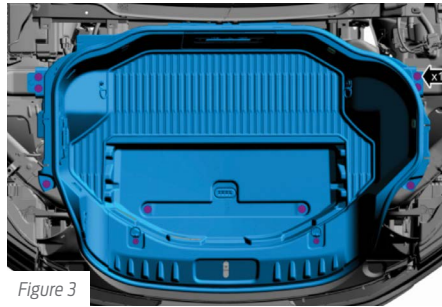

Figure 3
5. With the aid of another technician, remove the bolts and the under-hood storage compartment (torque: 22 lb.ft. / 30 Nm). [Figure 3]